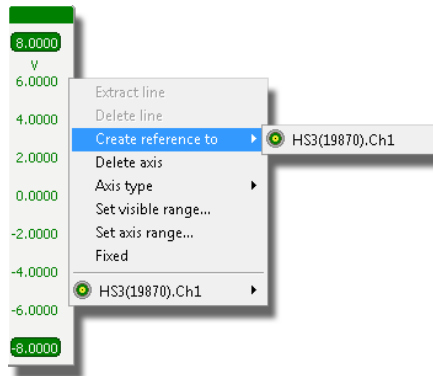

Figure 4.8: A popup menu of an axis.
**Controlling axes** Depending on the signal that is being displayed in the graph, various axis options can be selected. When using the non-XY-mode, the vertical axis type can be set to logarithmic or linear. Also the menu options of the connected source(s) can be accessed through the popup menu of an axis. A popup menu of an axis is displayed in figure 4.8.